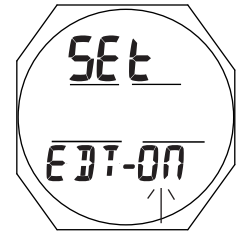

Fig. 109 - SET EDT ALARM
**Set EDT Alarm**, information includes (Fig. 109):